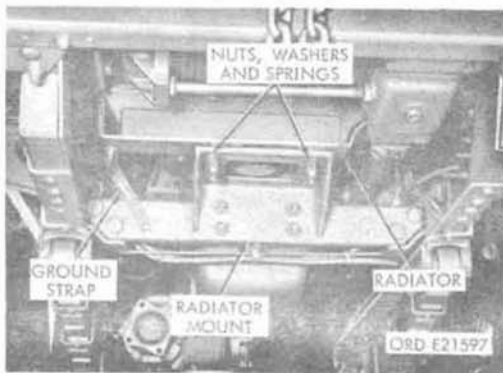

Figure 135. Radiator mounting studs
- (2) **Remove radiator.** Drain the cooling system. Loosen the clamps on the radiator inlet and outlet hose at the radiator (fig. 80) and pull both hoses free. Loosen the nut on the radiator stay rod at radiator end of the rod, and remove the rod from the radiator, one on each side. Remove two nuts, washers, and springs from the engine front mounting support (fig. 135). Lift off the radiator and remove the mounting shims.
- (1) **Install radiator.** Position the two mounting shims on the engine front mounting support. Place the radiator on the support with mounting studs (fig. 135) through the holes in the shims and support. Install the mounting spring, plain washer, and safety nut on each stud. Tighten the nuts evenly and securely, but do not tighten enough to completely compress the springs. Connect the two bond straps at the bottom of the radiator, one on each side with the external-teeth lock-
- (2) Position brush guard. Place the brush guard (fig. 135) in vertical position and engage the guard braces over the screws, one on each guard vertical inner bar, and tighten the nuts on the screws. On trucks with front winch, install the brush guard (if removed in a above) in the reverse order of removal.